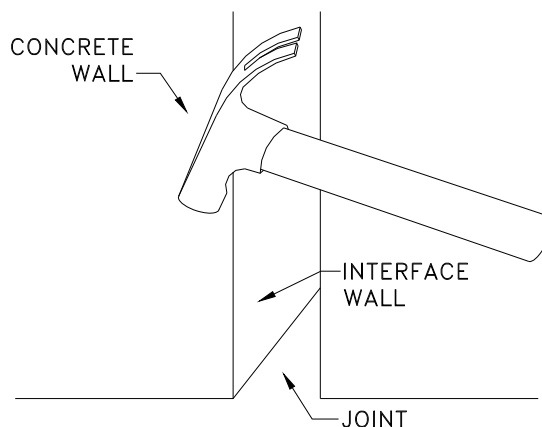

Figure 3
- E. Concrete adjacent to the expansion joint system must be sound. Confirm this by tapping these areas with a hammer (see Figure 3). If a hollow sound is heard or the concrete cracks, crumbles or loosens, the unsound concrete must be removed and repaired with a structural repair mortar.